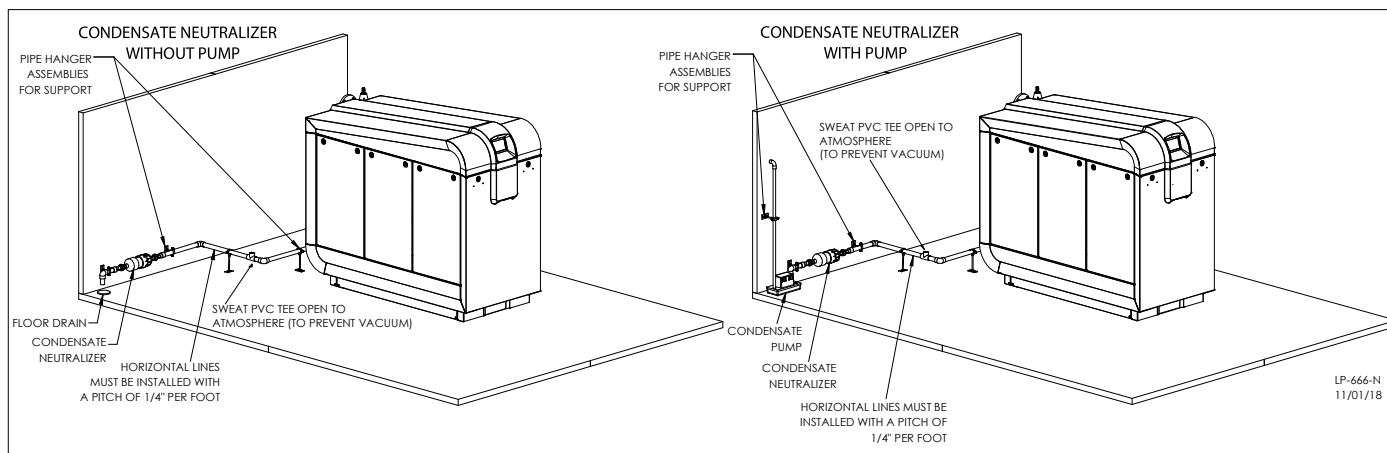

Figure 31 - Condensate Piping
8. Local building codes may require an in-line neutralizer to be installed (not included) to treat the condensate. See Figure 31. If required by local authorities, a condensate filter of lime crystals, marble, or phosphate chips will neutralize slightly acidic condensate (p/n 7350P-611 available from HTP). Follow all the installation instructions included with the neutralizer. If a neutralizer is installed, periodic replacement of the limestone (or neutralizing agent) will be required. The rate of depletion of the limestone varies with usage of the boiler. During the first year of boiler operation, check the neutralizer every few months for depletion.